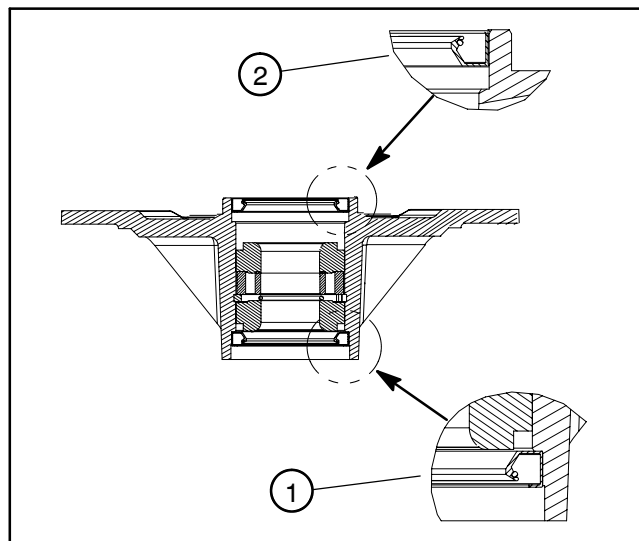

Figure 7
5. Install lower bearing and seal into bottom of spindle housing. **Note:** The bottom seal must have the lip facing out (down) (Fig. 7).
6. Slide spacer ring and inside spacer into spindle housing, then install upper bearing and seal into top of housing. **Note:** The upper seal must have the lip facing out (up) (Fig. 7).